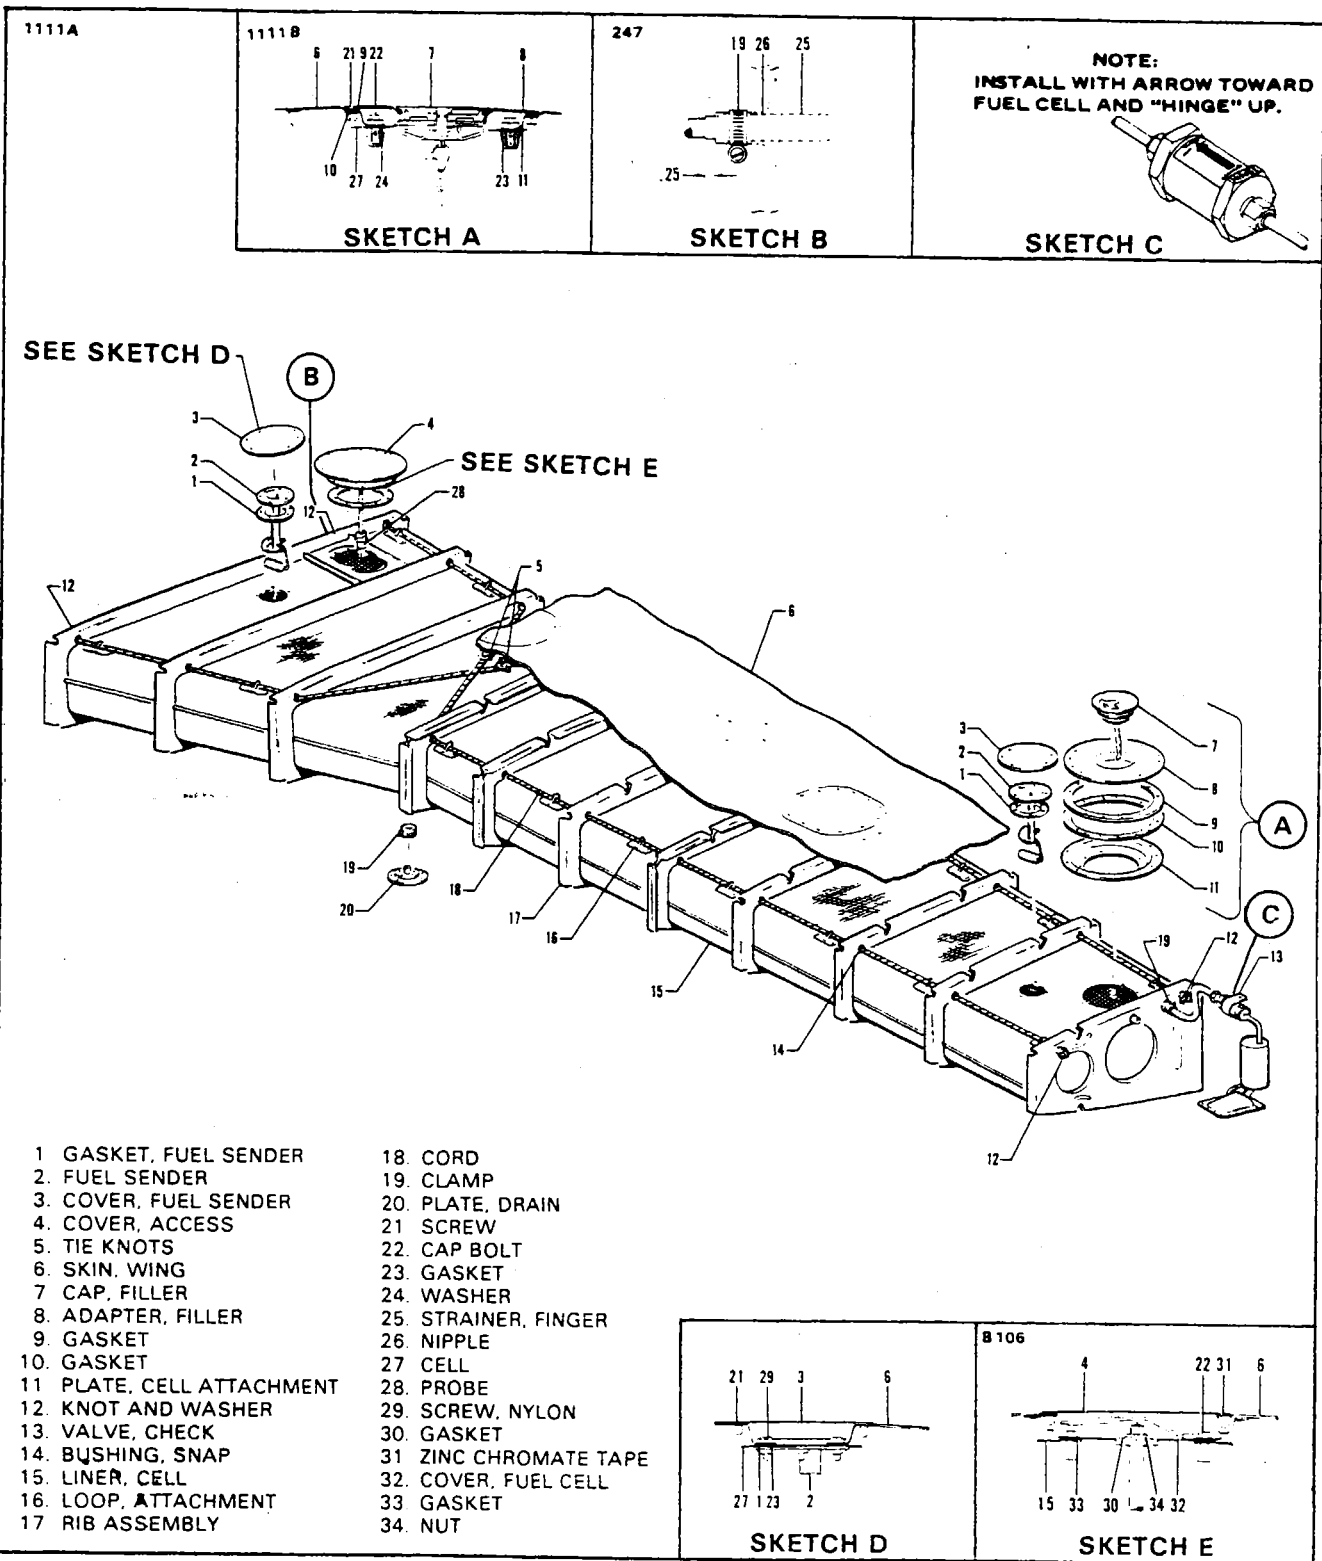

Figure 9-2. Fuel Cell Installation (Main/Inboard)
9-4. REMOVAL OF WING FUEL CELLS. (Refer to Figure 9-2 or 9-3)
- a. Insert the outlet tube finger strainer into the fitting as shown in Sketch "B." Figures 9-2 and 9-3.
9-7. INSTALLATION OF WING FUEL CELL. (Refer to Figures 9-2 and 9-3.)
- i. Lay out the nylon cord on the wing to determine the length of cord for each tie. The cords are routed as shown in Figures 9-2 or 9-3. Allow enough extra cord to work with.